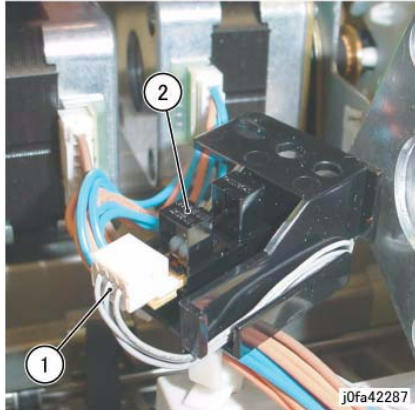

Figure 4 Removing the Front Tamper Home Sensor
10. Remove the Front Tamper Home Sensor Assembly (Figure 4):